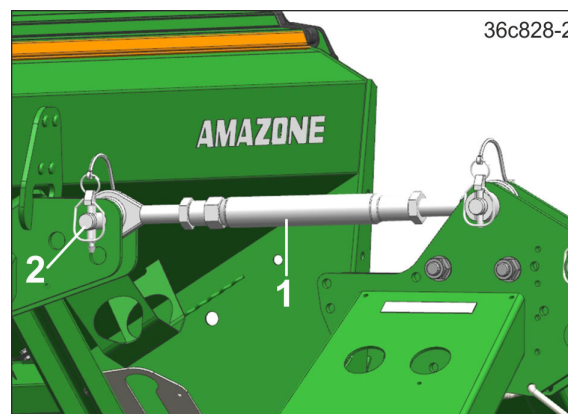

Fig. 130
8. Peg the top link (Fig. 130/1) with 2 top link pins (Fig. 130/2) onto the soil tillage implement and the pack top seed drill.